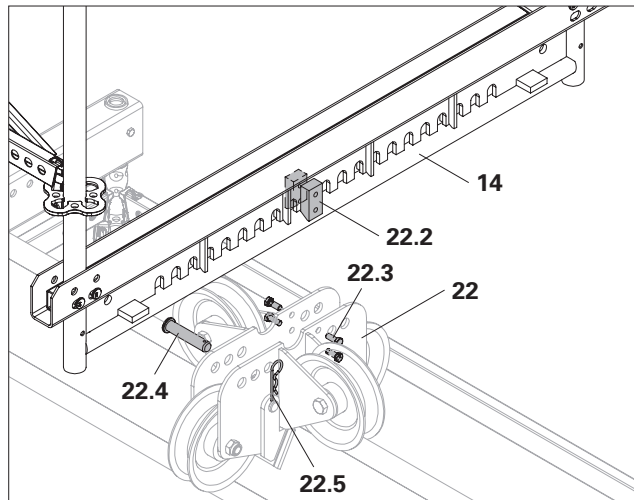

Fig. A6.06a
(Fig. A6.06a)
3. Insert bolts (22.4) through the designated recess of the Carriage URW (22) and hole of the Support URS (14), and secure with cotter pins (22.5). (Fig. A6.06a)